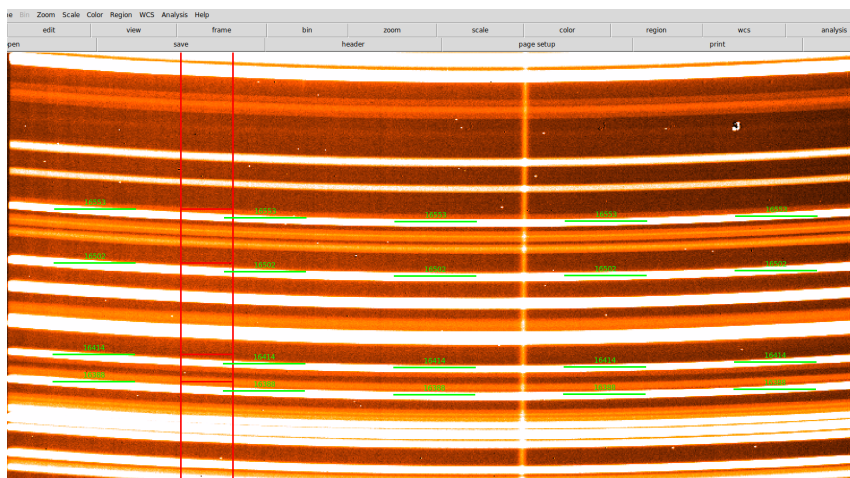

Fig. 3.2: The figure shows the behavior of the Complete Adjustment if `Split slit = 5`.
- in LS data, the curvature of emission lines can be so important that the straight green lines can intercept two close emission lines. This can lead to non accurate wavelength calibration. In this cases the user can split the line in `Split slit` part (see Fig. 3.2).